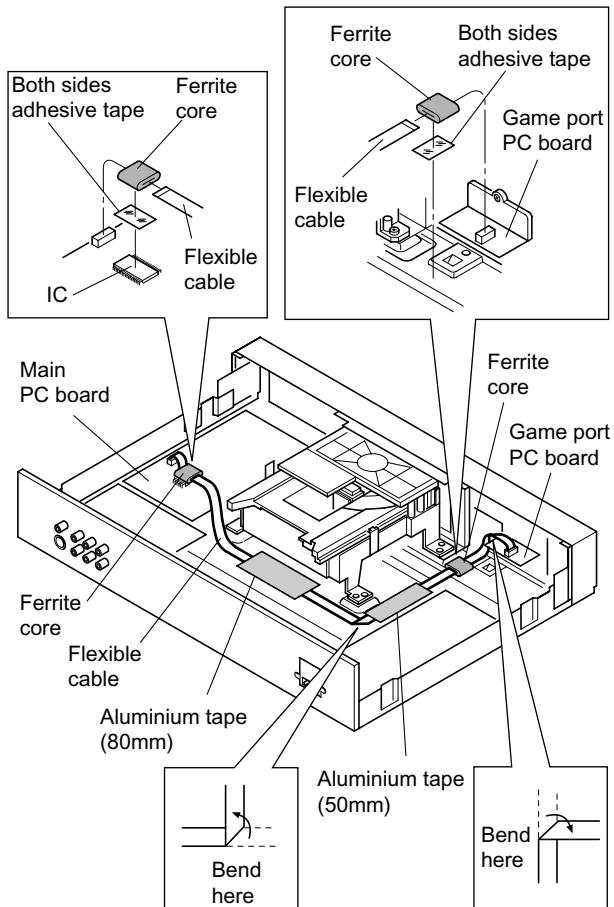

Fig. 2-1-9
- The game port PC board and the main PC board may be connected. (Refer to Fig. 2-1-9.)
1. Remove the top cover. (Refer to item 1-1-1.)
2. Remove seven flexible cables (1) and remove one connector (2).
3. Remove four screws (3).
4. Release two claws and remove the main PC board (4).
- The flexible cable of the game port PC board may be connected to the main PC board. (Refer to Fig. 2-1-9.)
- Remove the front panel. (Refer to item 1-1-4.)
- Remove two flexible cables (1).
- Remove four screws (2) and remove the front display PC board (3)
- Remove three screws (4) and remove the PC Game port PC board (5).
- Remove two screws (6) and remove the power switch PC board (7).